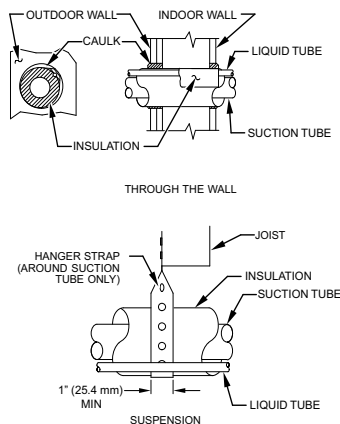

Fig. 1 – Connecting Tubing Installation
6. When passing refrigerant tubes through the wall, seal opening with RTV or other pliable silicon-based caulk (see Fig. 1).
8. Do not suspend refrigerant tubing from joists and studs with a rigid wire or strap which comes in direct contact with tubing (see Fig. 1).
10. When necessary, use hanger straps which are 1 in. (25 mm) wide and conform to shape of tubing insulation (see Fig. 1).